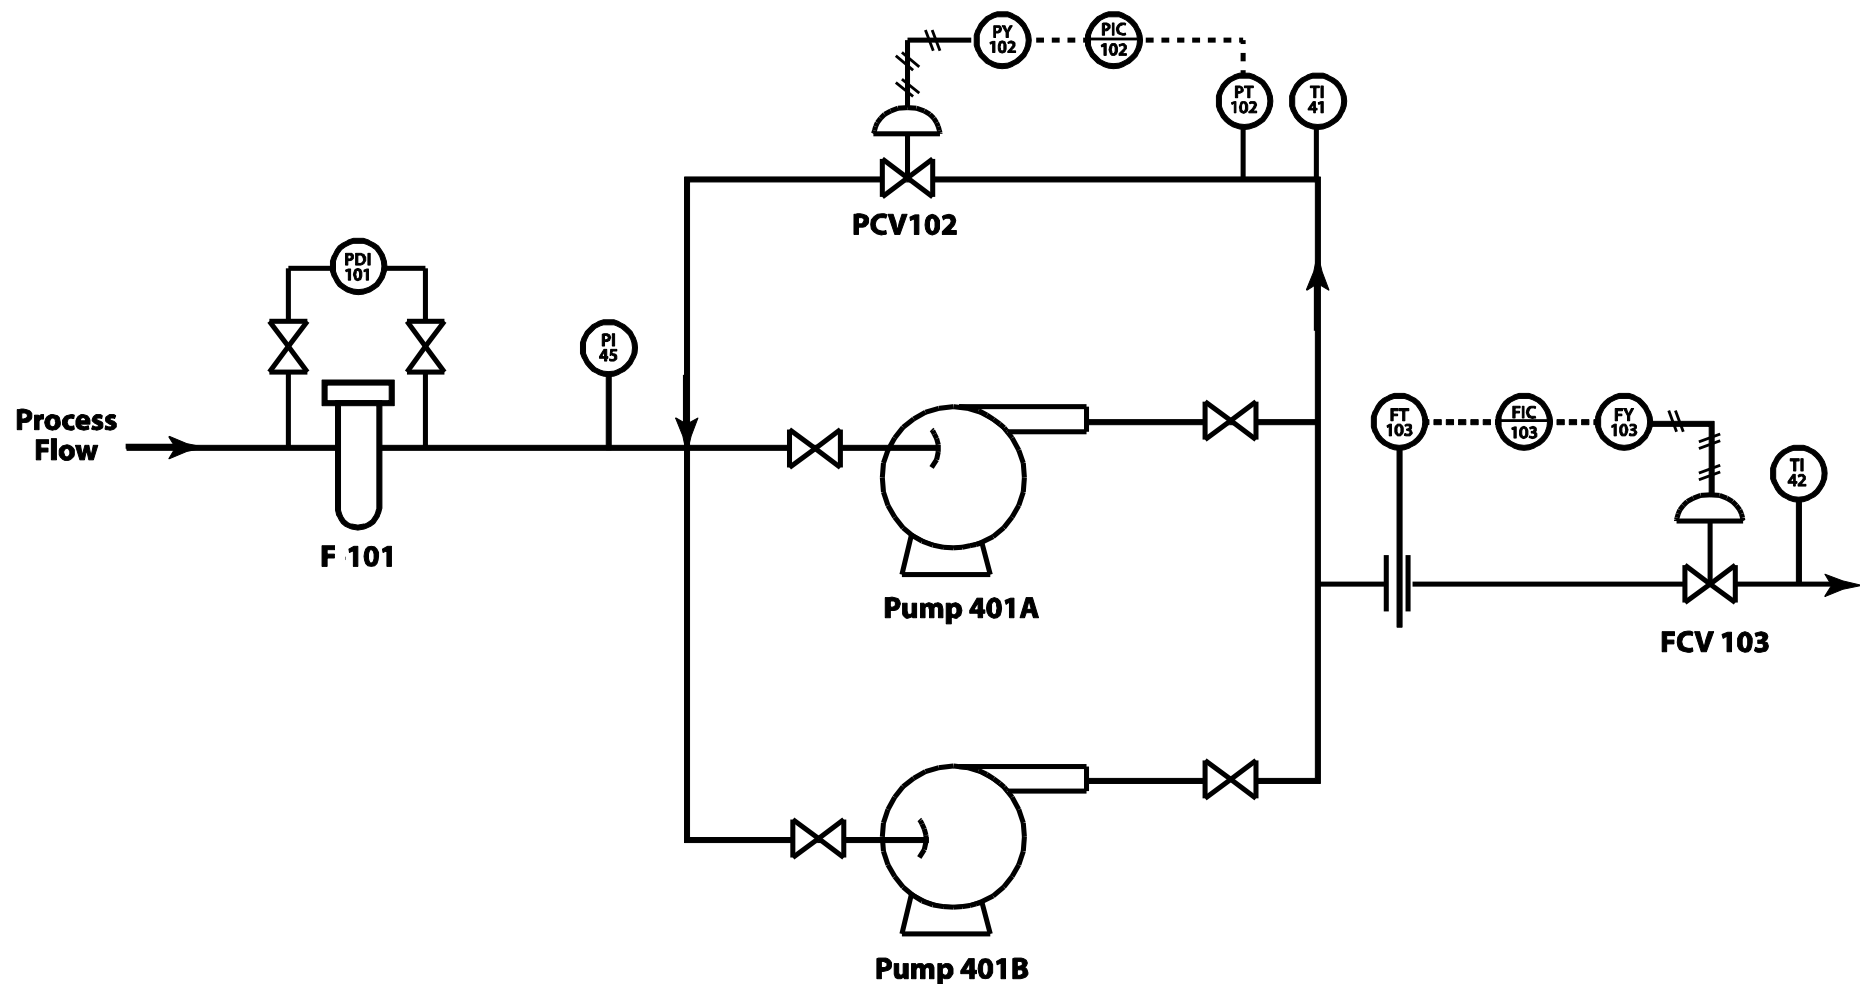

Figure 1. Process Schematic
The schematic for the process is shown in Figure 1.
at Normal Operating Conditions in Figure 1**
6. Review Figure 1 and Table 3. What would happen to PDI-101 if suction flow pressure increases?
7. Review Figure 1 and Table 3. What would happen to FV-103 output if FIC-103 increases?
8. If suction flow temperature increases in Figure 1, what would happen to TI-41 and TI-42?
9. If both pumps are lost in Figure 1, what would happen to FIC-103?
10. In both pumps are lost in Figure 1, what would happen to PIC-102?
11. If PIC-102 decreases in Figure 1, what would happen to PV-102 output?